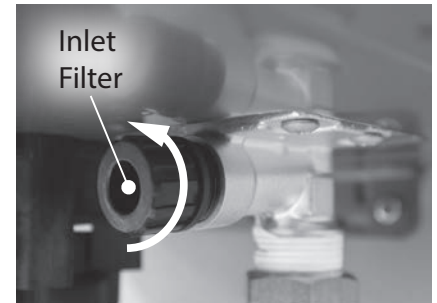

Figure 194 - Removing the inlet filter
- 7 Locate and remove the inlet filter as shown in Figure 194 to drain any residual water left in the system. Place a bucket or pan underneath inlet filter to collect water during removal.